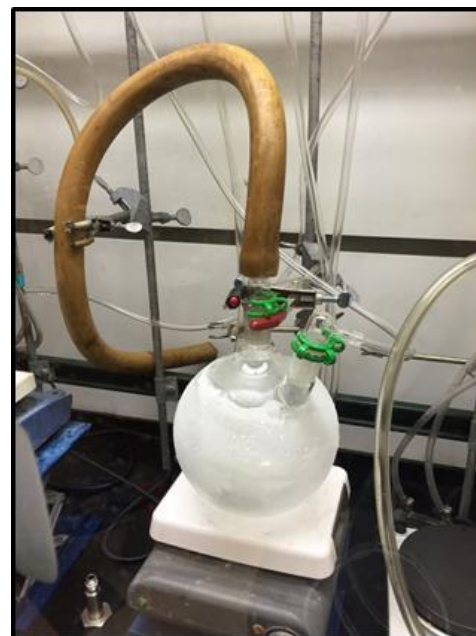

Figure 5: Layer of Ice upon Evaporation of Ammonia
4. As ammonia evaporates, a layer of ice is formed on the flask which will keep the system cool as well as help to maintain a somewhat controlled rate of evaporation (Figure 5).